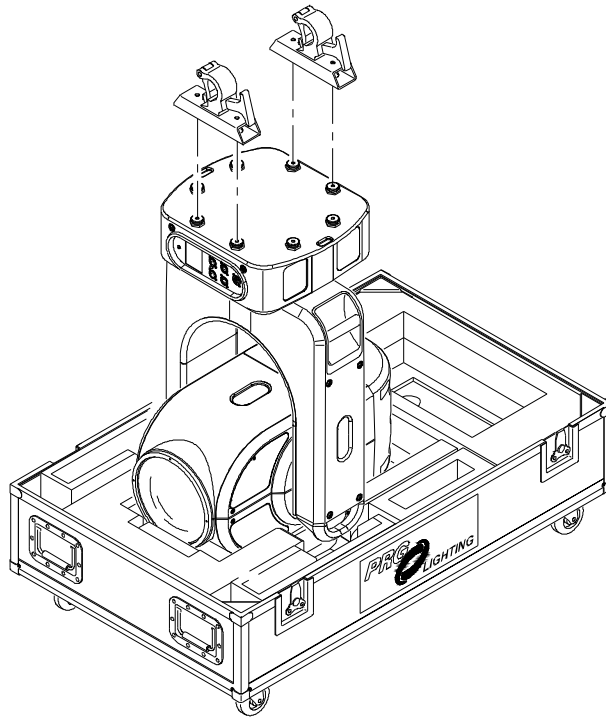

Figure 2-6: Attaching Hanging Brackets
- Step 1. Orient Hanging Brackets as shown in **Figure 2-6**.
CAUTION: Hanging Brackets must be installed in the orientation shown in **Figure 2-6** so that the interface panel (display) will face downward.